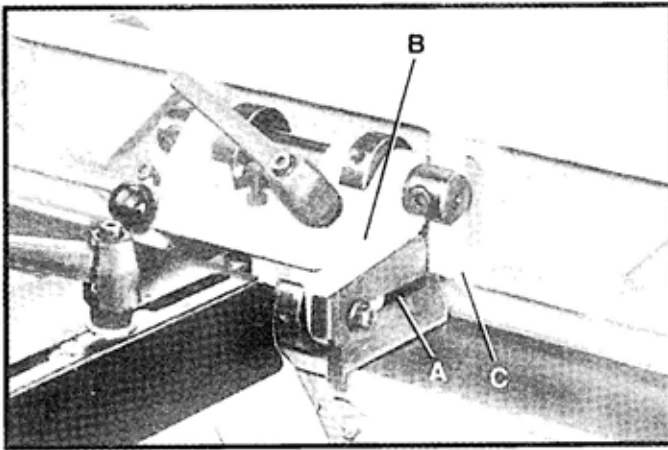
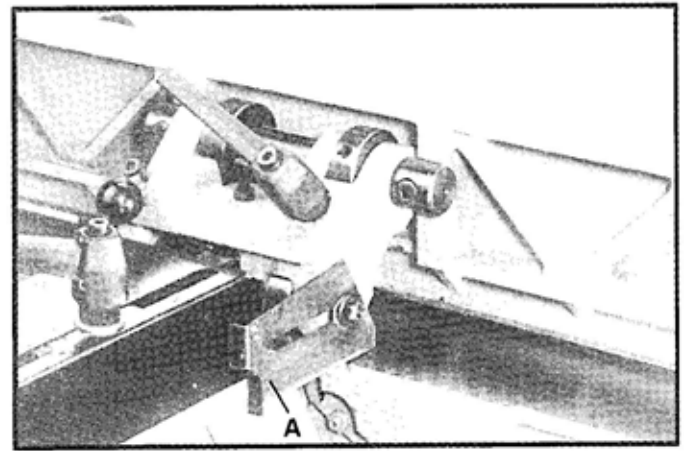

Fig. 55
Fig. 56
Two guards, one of which is shown at (A) Fig. 55, are provided on each side of the fence bracket to close up the opening between the fence bracket (B) and the fence (C) limiting access to the cutterhead. When the fence is tilted, the guard (A) Fig. 56, can be pushed to the rear as shown. After the fence is returned to the 90 degree position, simply push the guard (A) Fig. 56, forward to close up the opening. Fig. 55, illustrates the guard (A) properly adjusted.